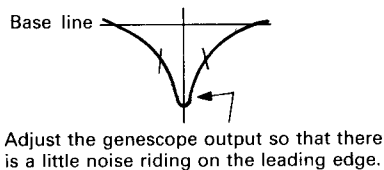

Fig. 10
1. Feed in a weak signal from the genescope. Adjust T201, T203 for maximum gain and the waveform of Fig. 10.